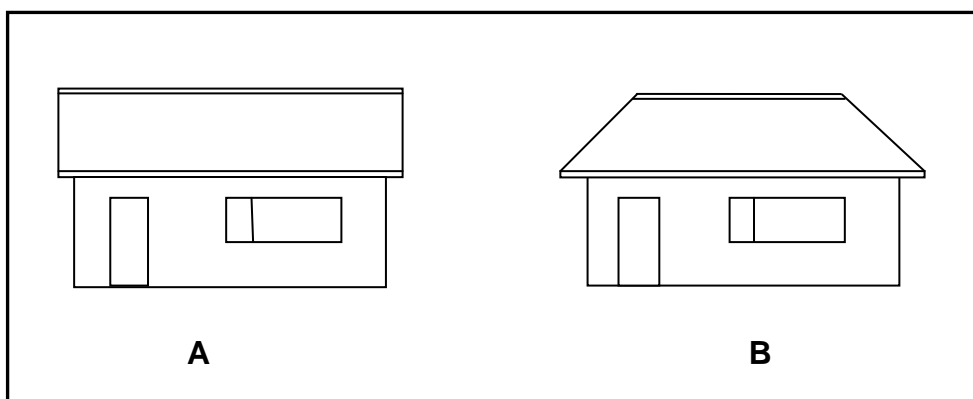

FIGURE 4.3
- 4.3 FIGURE 4.3 below shows roof profiles for building **A** and building **B**. Study the sketch and answer the questions that follow.